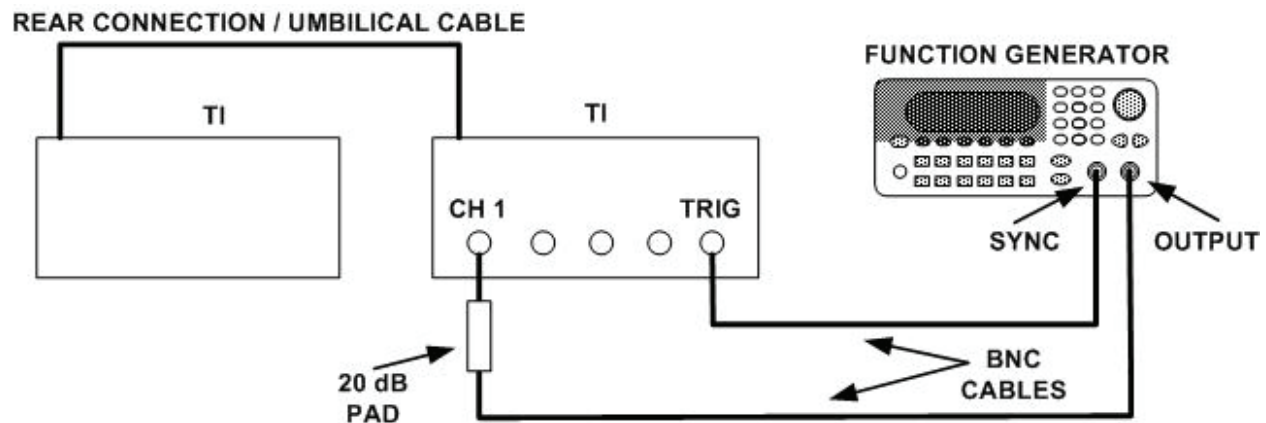

Figure 6. Time interval long Δt - equipment setup.
- (11) Press **SYSTEM CONTROL/ RECALL SETUP** and **ENTRY 3** pushbuttons. Press **Channel** key and set **Channel 1** to **Display On** is highlighted.
- (12) Connect equipment as shown in figure 6.